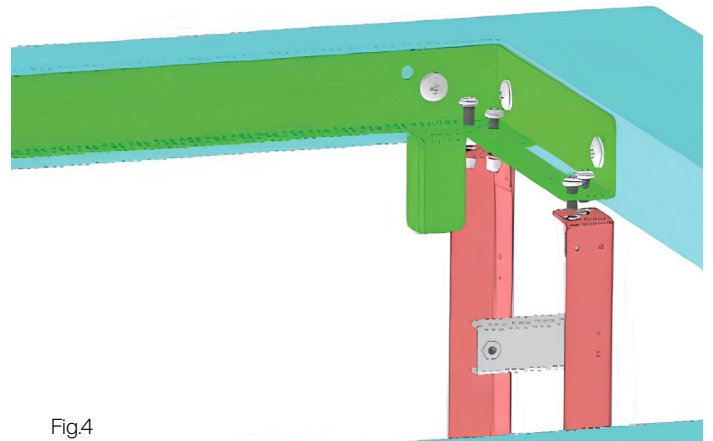

Fig.4
6. Fix the two worktop reinforcement telescopic structures to the lower sides of the support bracket of the downdraft, as shown in Fig. 4.